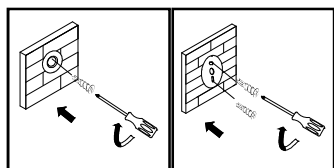

FIGURE 4
- Install plastic screw at each pencil mark made. (FIGURE 4)